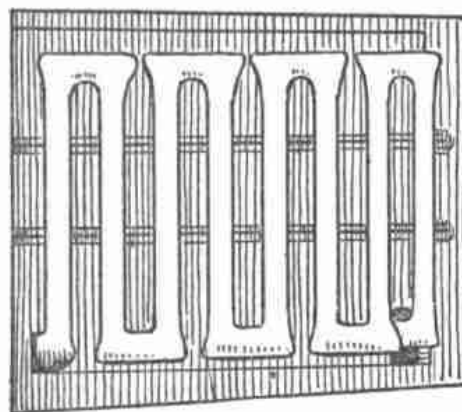

Fig. 106
28. *The Moore Light*.—In 1896 Prof. D. McFarland Moore brought out his vacuum tube light (Fig. 106). We visited an ordinary dry goods store which had been equipped with this. Glass tubing is put together very much as one would put up a stove pipe or a job of plumbing. The joints are fused and made air-tight by playing a flame upon them after the pipe is up in place. This pipe is led around into all nooks and corners where there would be dark places. The air is pumped out of this tube and a trifling amount of some vapour is introduced, the kind varying according to the tint of colour which is desired.